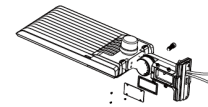

Fig. 3
1. Remove the bracket mounting screws on the fixture, open the side lid of the bracket and run the wires through the bracket (Fig. 3).